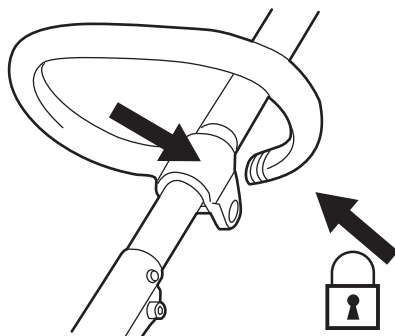

Fig. 1b
- > Place the auxiliary handle (14) onto the upper shaft (16) and secure it with the bolt (15b) and wing nut (15a) (Fig. 1b)